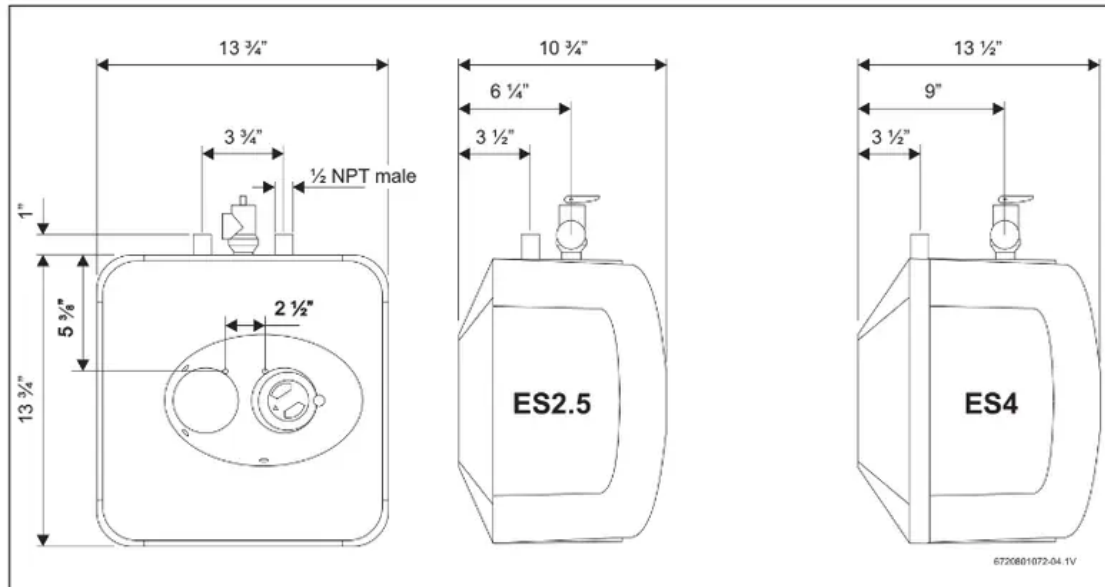

Fig. 5
- The supplied Temperature and Pressure Relief Valve will need to be installed on top. See location of T&P relief valve in → Fig. 5 and → Fig. 6.